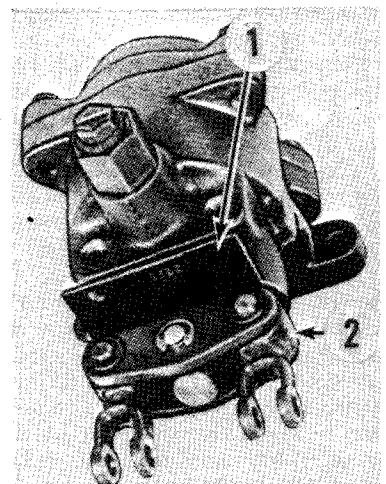

Fig. 184—View of Ford brake adjusting tool No. 7446 (1) installed between rocker arm links (2) and valve body. See text for brake adjustment on Model TW-30.
210. ADJUSTMENT. To adjust power brakes on TW-30 models, shut off engine, depress both brake pedals and insert Ford tool No. 7446 (1—Fig. 184) between rocker arm links (2) and power brake valve housing as shown in Fig. 184. Loosen adjusting nuts and locknuts on both pedals then adjust one pedal at a time. Tighten adjusting nut until pedal begins to move. Check corner of gage for movement. If gage can be moved with a heavy drag, adjustment is correct. Gage must be movable without depressing